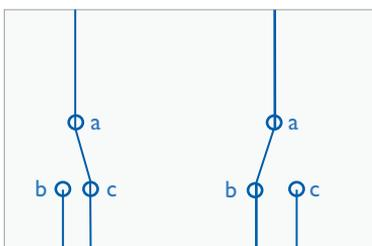

Figure 2: toggle switch
- three junctions: 'a', 'b' and 'c' – see Figure 2